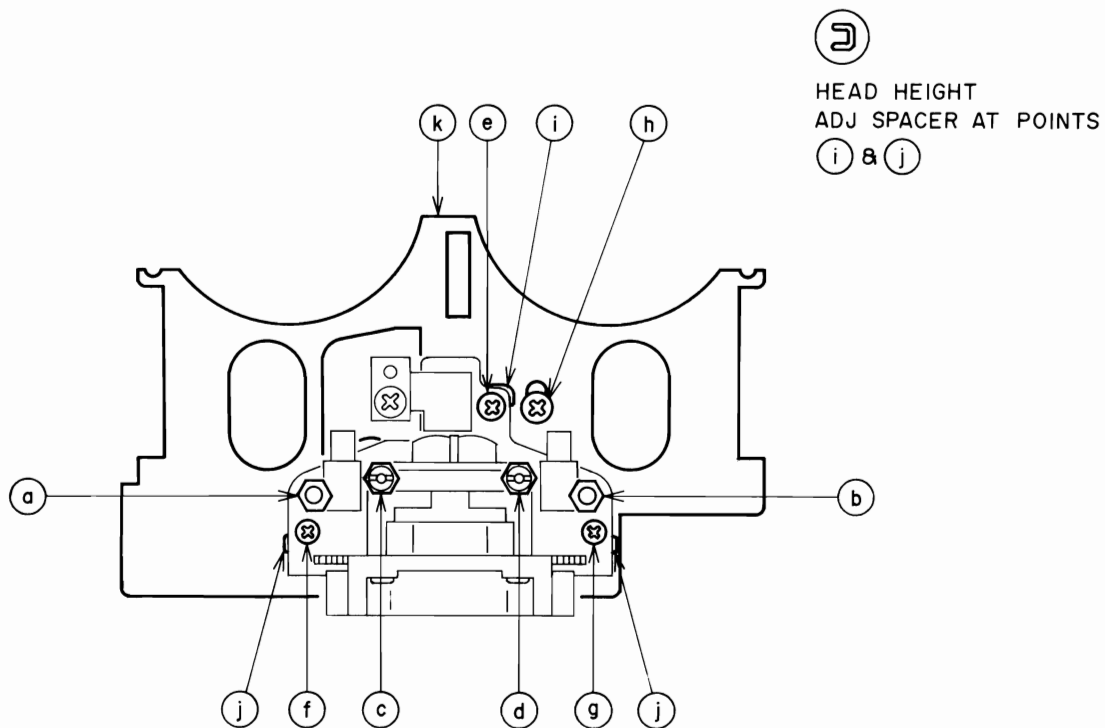

Fig. 6-2
- b) Adjust the Erase Head Height by turning the nuts ① & ② shown in Fig. 6-2, so that the Line out level is -5.5 dBm (315 Hz) or -6.1 dBm (333 Hz).
- c) Select REV PLAY mode, and re-adjust the Erase Head Height by turning the nut ③ & ④ so that the difference in level (L-CH) between FWD and REV modes is within ± 0.5 dBm.
- f) Adjust Tape Guide (A) Height by turning the nut (A) and Erase Head (REV) Height by the nut (B) respectively, so that the tape runs smoothly by the adjacent edge of the Erase Head (FWD) without curling.
- g) Next, select REV PLAY mode, and adjust Tape Guide (B) Height by turning the nut (B) so that the tape runs smoothly by the adjacent edges of both Erase Heads (FWD & REV) without curling.
6-2 REC/PB HEAD AZIMUTH ADJUSTMENT (Refer to Fig. 6-2)